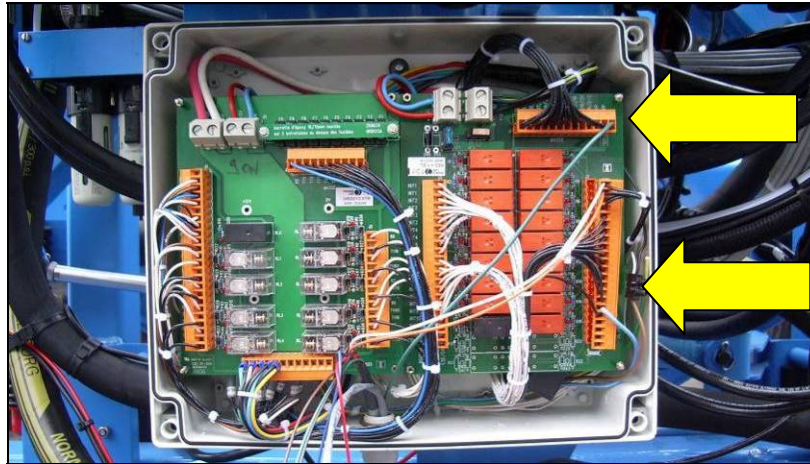

Figure 11: Opened Electronics Enclosure - J1 and J2 as indicated by arrows.
1. Connect cable C12, C13 and C16 to C11. The loose ends of C12, C13 and C16 connect to terminals within the grey electronics enclosure (**Figure 11**). Route these cables through an opened hole in the enclosure and make connections as indicated in **Table 1**. On cable C13 do not remove the diode pack (the connectors that are held together with a cable tie).